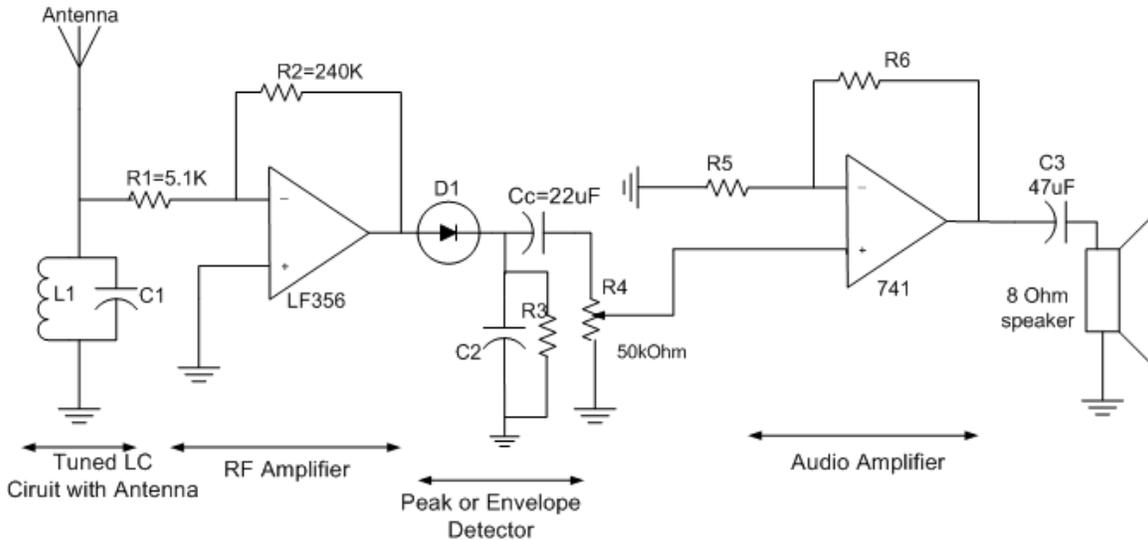
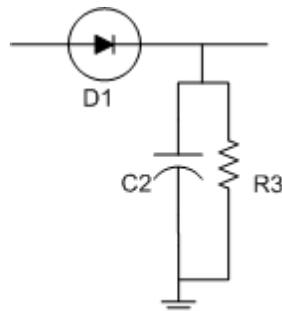
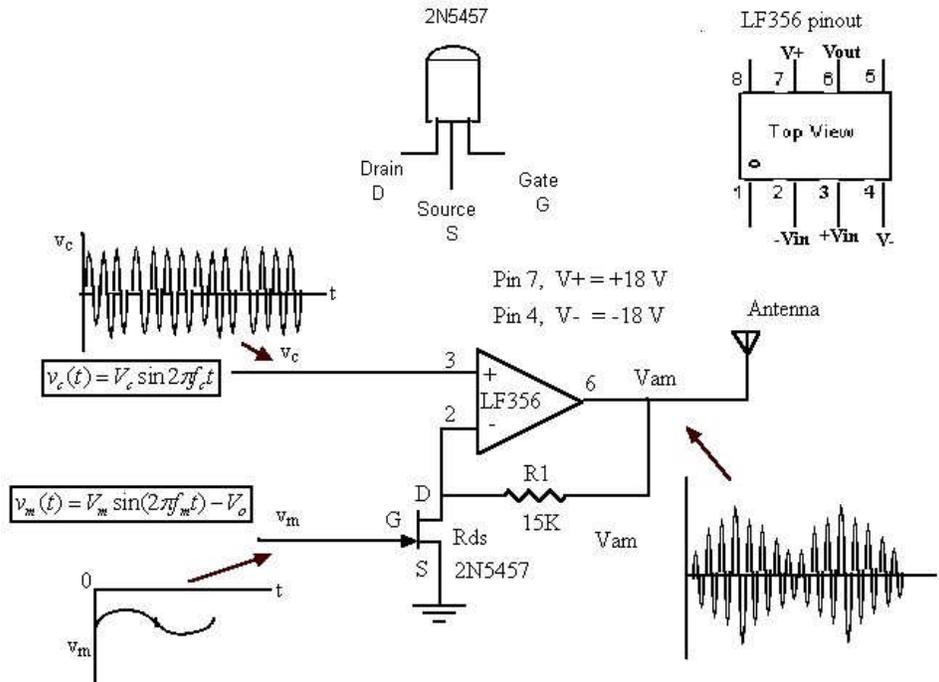

Figure 4: Receiver circuit consisting of an amplifier stage, a peak-detector and an audio amplifier.
Figure 5: Envelope or peak detector
Figure 7: AM Modulator/transmitter circuit (built during part 1 of the project).
The details of the receiver circuits are shown in Fig. 4. The first section consists of an antenna and a LC tuned filter followed by a wide-bandwidth amplifier (LF 356 with a gain-bandwidth product of 5 MHz) . The tuned circuit selects the carrier frequency. The next section is a simple peak detector that is used to demodulate the AM signal. It consists of a diode followed by a capacitor in parallel with a resistor (see section 3.5.4 “Rectifier with a Filter Capacitor or Peak Detector” in the textbook by Sedra-Smith, 5th ed.). This circuit, also called an envelope detector, extracts the modulating signal. The final stage is an audio amplifier. We have implemented this with an operational amplifier that has a gain of 10. Notice that a coupling capacitor C_c (also called a DC blocking capacitor) has been added after the peak detector. This is done to block the DC component in the rectified signal. This DC component does not carry information and can saturate the audio amplifier. Also, the speaker is connected through a coupling capacitor C_3 to the output of the amplifier. The audio amplifier is usually a power amplifier that is capable to deliver sufficient power to the speakers. For the purpose of this lab, we are using the 741 as an audio amplifier. This is done since we are not interested in providing a lot of power to the speaker in contrast to a conventional audio amplifier that is designed for large power delivery. When you measure your circuit you will notice that you won't be able to deliver a large signal to the speaker since the op-amp won't be able to deliver the necessary current (but for our purpose that is ok).
The peak detector, shown in Fig. 5 can be considered as a half-wave rectifier with a low-pass filter (RC circuit). The value of the RC circuit determines the peak-to-peak value of ripple V_r of the rectified signal, according to the following expression,
4. The LF356 amplifier has a gain bandwidth product of 5 MHz. What is the bandwidth of the inverting RF amplifier configuration shown in Fig. 4?
- a. Find the value of C_2 and R_3 of the peak detector (Fig. 5), using expression (5). Use a value of R_3 in the range of 2-10 kOhm and select a capacitor according to expression (5).
- b. For the selected values of R_3 and C_2 calculate the corresponding ripple V_r/V_p (see expression (4)). Assume a frequency f_c of 100 kHz.
6. Design the audio amplifier, shown in Fig. 4 such that it has a gain of 11. Use resistor values in the range of 1 to 10 kOhm.
Note: You will be using the modulator circuit that you constructed during the first part of this mini-project (Fig. 7 part 1).
2. Next you will construct the receiver and demodulator circuit of Fig. 4. **Construct this circuit in a corner of the protoboard as far from the modulator circuit as possible to reduce interference.** Start with the tuned LC circuit that you designed earlier in part 1 of the project.
3. Construct the amplifier using the LF356 as shown in Fig. 4. The pins of the amplifier are given in the parts list (Fig. 7). Use a voltage of +12V, and -12V for the power supply. Place 0.1 uF decoupling caps between the power supply pins (4 and 7) and ground. Check that the amplifier functions properly. You can apply a small input voltage and measure the output voltage. Notice that the amplification is about 50. *Do not saturate the amplifier.*